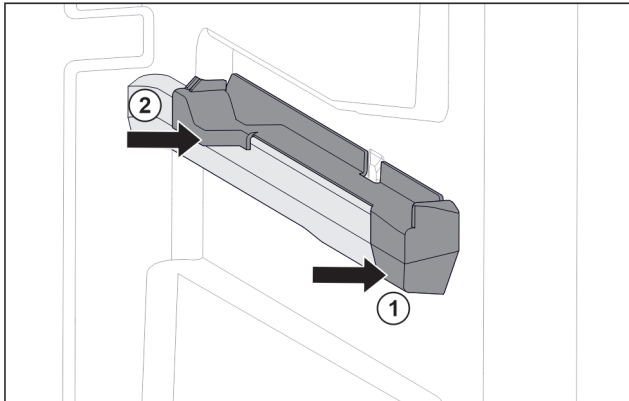

Fig. 66 Attachment on the right moulded rib
- ▶ Position attachment on moulded rib at the front. Fig. 66 (1)
- ▶ Press on attachment at the back. Fig. 66 (2)